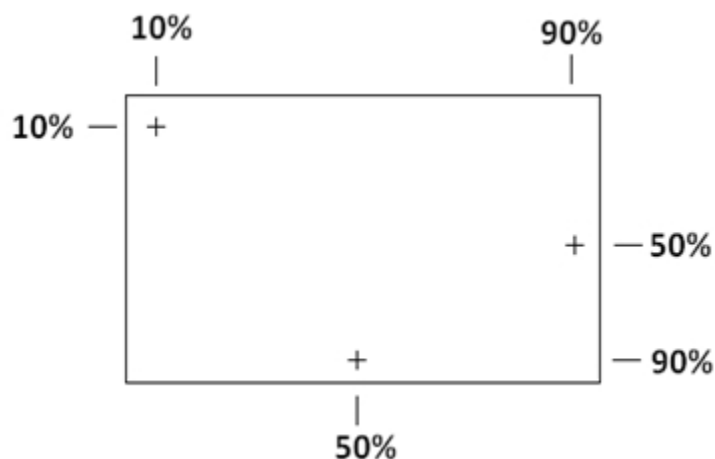

Figure 8. Single Touch Calibration Points
- Detecting three X and Y pairs of coordinates (See Figure 8).